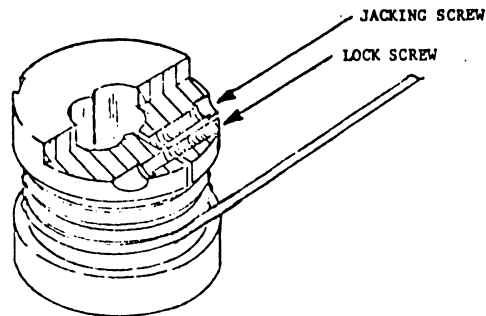

FIGURE 5-4 PEN CABLE DRUM DIAMETER ADJUSTMENT
2. To increase the diameter of the drum, remove the two lock screws shown in Figure 5-4, then turn the jacking screws clockwise to desired location. When jacking is completed, replace the locking screws.